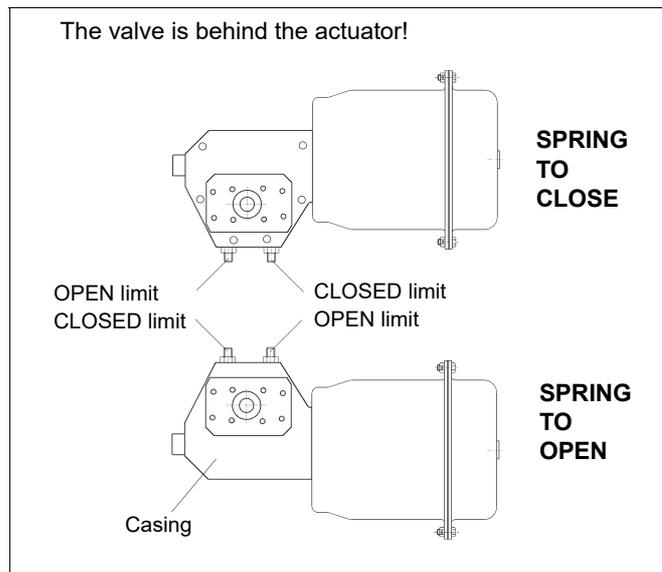

Fig. 41 Installation of a Quadra-Powr actuator and adjustment of the open and closed limits
Quadra-Powr actuators may be used for spring-to-close and spring-to-open operations depending on the installation position. After selecting the desired operation, see Fig. 41 for the correct installation position.
**Adjust the valve open and closed positions by means of the screws at the side of the actuator; remember to tighten the locking nuts. See See Fig. 41.**